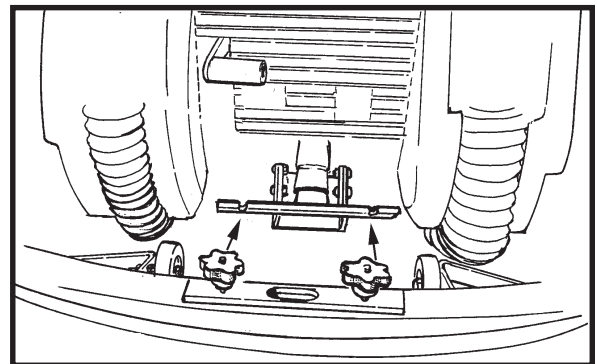

Figure 7
1. Remove the squeegee assembly by loosening the two knobs that attach the squeegee to the machine. Pull the squeegee assembly off. See figure 7.